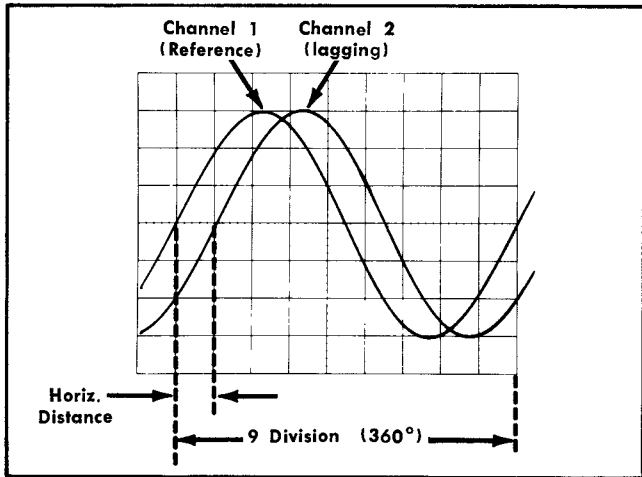

Fig. 2-4. Measuring phase shift.
5. Turn the Variable time/division control counterclockwise until 1 cycle of the reference signal (Channel 1 signal) occupies exactly 9 divisions horizontally. Each division of the graticule represents 40° of the cycle ($360^\circ \div 9 \text{ divisions} = 40^\circ/\text{division}$). See Fig. 2-4).
For example, with a horizontal distance of 1.1 divisions as shown in Fig. 2-4., the phase difference would be: